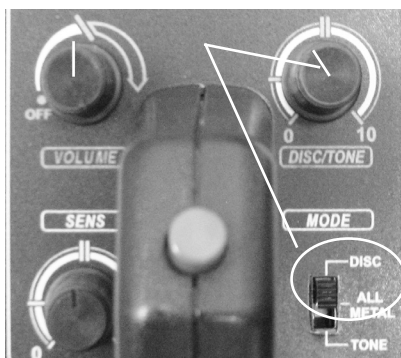

Figure 8
4. To have the unit differentiate **nickel metals**, set the DISC/TONE to about “11 o'clock.” See Figure 8. Sweep the nickel in front of the Search Coil; the unit will not respond to the nickel or to the iron nail. But it will respond the other samples.